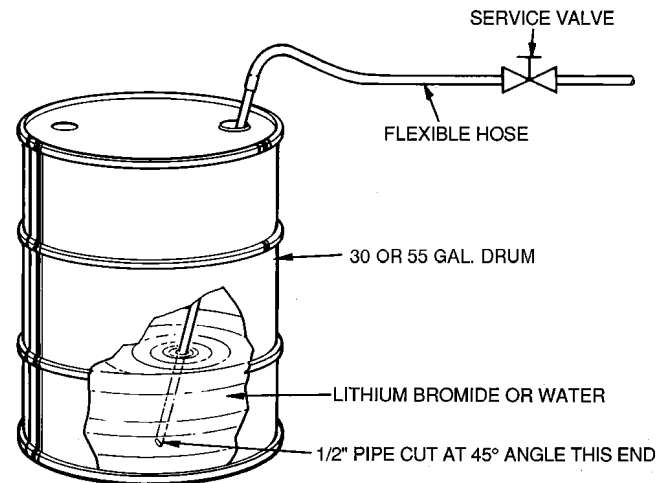

Fig. 20 — Charging Solution and Refrigerant
2. Insert the 1/2-in. (15-mm) pipe into the container (be sure it goes to the bottom), and connect the flexible hose to the solution pump service valve (Fig. 20). The lithium bromide container must have yellow, "Lithium Chromate Inhibitor" markings, and a 55% concentration solution must be used.